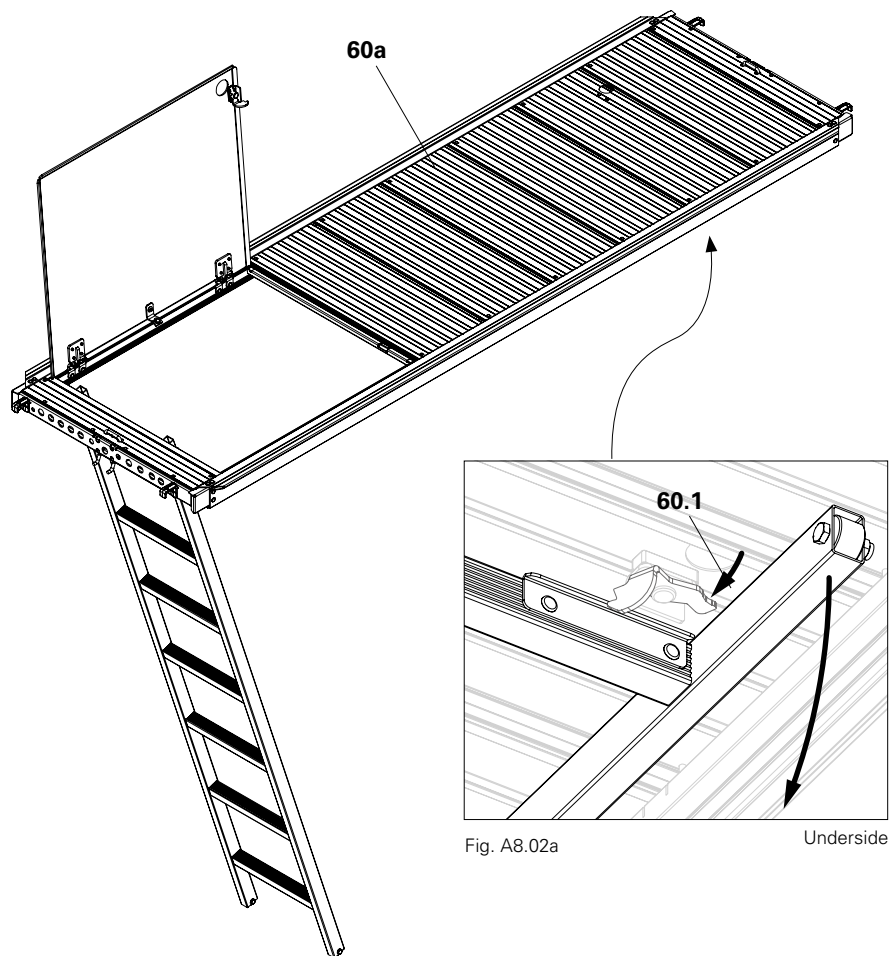

Fig. A8.02a
2. Secure the ladder on the lowest rung and unlatch latch (**60.1**). Fig. A8.02a